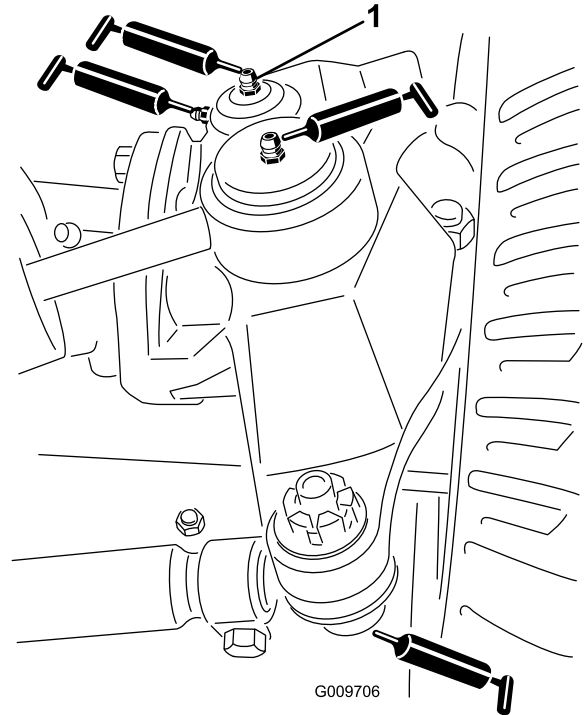

Figure 50
- Steering cylinder ball joints (2) (Figure 50)
- Tie rod ball joints (2) (Figure 50)
- King pin bushings (2) (Figure 50). **The top fitting on the king pin should only be lubricated annually (2 pumps).**